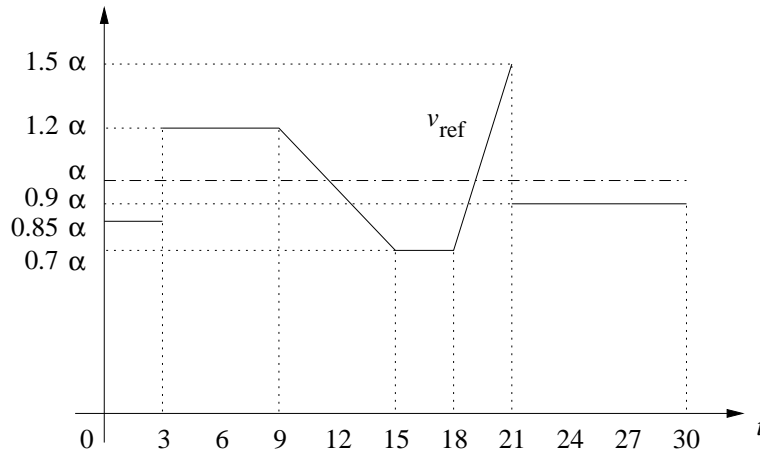

Figure 3: The reference speed signal to be used.
Step 8: Assume $\lambda = 0.1$ (in general, an appropriate value of λ is determined by taking into account the nominal values of J_{track} and J_{input} and by some tuning and iteration). Consider two combinations of N_p and N_c : first the combination $(N_{p,1}, N_{c,1}) = (5, 4)$ which is the same for all groups, and another combination $(N_{p,2}, N_{c,2})$ that you may select yourself with $N_{p,i} \in \{7, 8, 9, 10\}$ and $1 < N_{c,i} < N_{p,i}$. For each combination run your program for the discrete-time PWA model and the original continuous-time model for the time interval $[0, T_{\text{end}}]$ with $T_{\text{end}} = 25$, for $v(0) = 0.9\alpha$ where α is the value found in Step 2, and for the speed reference signal v_{ref} which defined as follows (see also Figure 3):
with x the state of the following car (for simplicity we only consider the speed). The reference speed signal is the same as in Fig. 3. You can use the results of Theorem 4.5.4 in the Lecture notes (pages 76 and 88). But it should be noted that here a_i is nonzero in some regions and also we have to integrate the reference tracking problem. (Please see the additional note on the website useful for formulating this problem).
1. Find the state feedback $u = K_i \cdot x$ that guarantees stability of the system and forces the speed to follow the reference speed (Fig. 3). Please ignore the constraints on the throttle input and also the limit on the acceleration. In order to achieve better transient behavior, we define positive definite matrices Q_i and solve the corresponding feasibility problem in order to find the feedback gains K_i . First try to solve the problem with $Q_i = 0$ and next choose Q_i as $\gamma_i \cdot I_i$, with I_i the identity matrix and γ_i a positive scalar. Increase $\gamma_i > 0$ until no feasible solution can be found for K_i . Report the obtained γ_i and K_i .